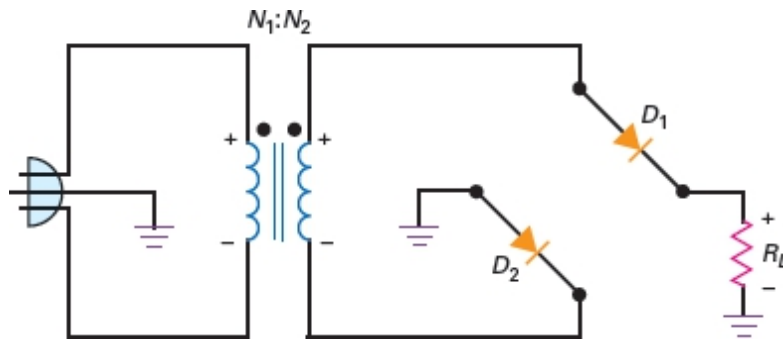

Figure-46 Equivalent circuit for positive half-cycle
- Figure-46 shows the equivalent circuit for the positive half-cycle. As you can see, D1 and D2 are forward biased. This produces a positive load voltage as indicated by the plus-minus polarity across the load resistor.